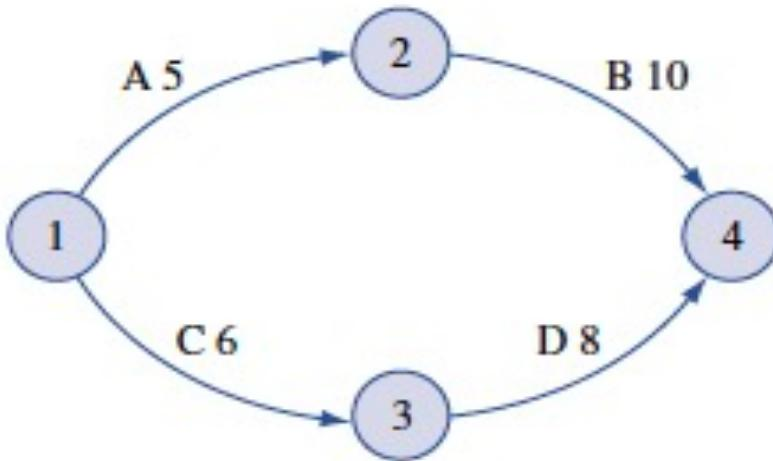

Figure 5.9 Network to Determine Critical Path
- Here is a more concrete example of the fact that (because of the uncertain duration of activities) the critical path found by CPM may not actually be the path that determines the completion date of the project. Consider the simple project network in Figure 5.9.
- If CPM were applied (using the expected duration of each activity as the duration of the activity), then we would obtain the network in Figure 5.9. For this network, the critical path is 1-2-4.